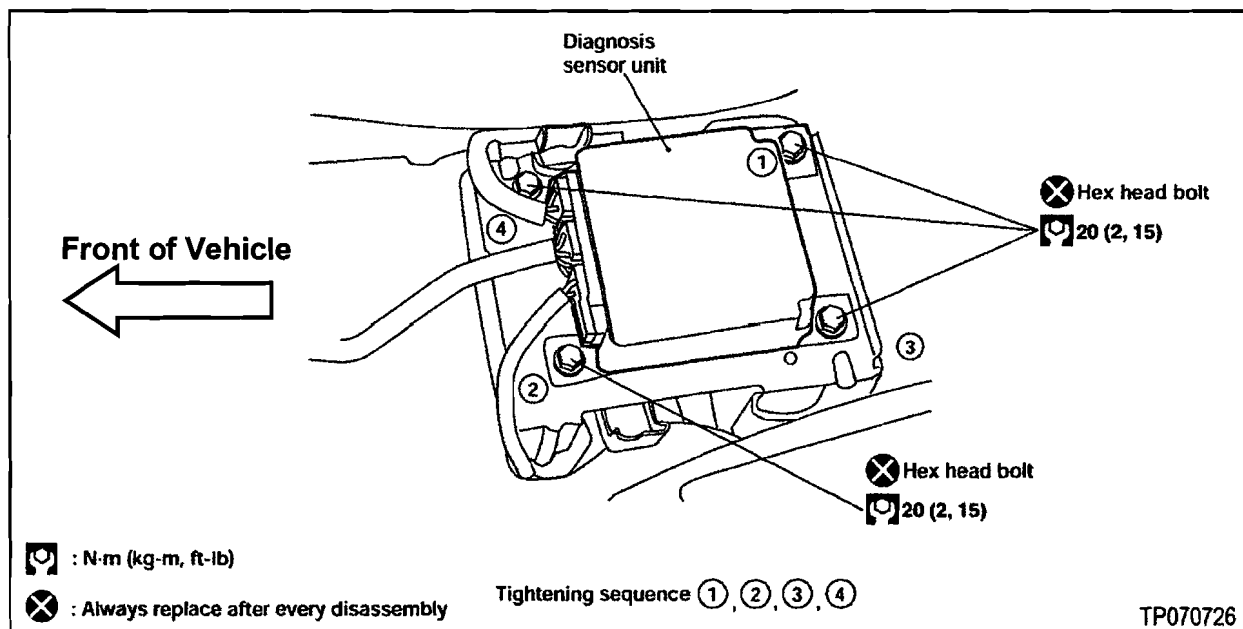

Figure A11
- b. Remove and discard the hex head bolts shown in Figure A11.
- e. Tighten bolts in the order shown in Figure A11.